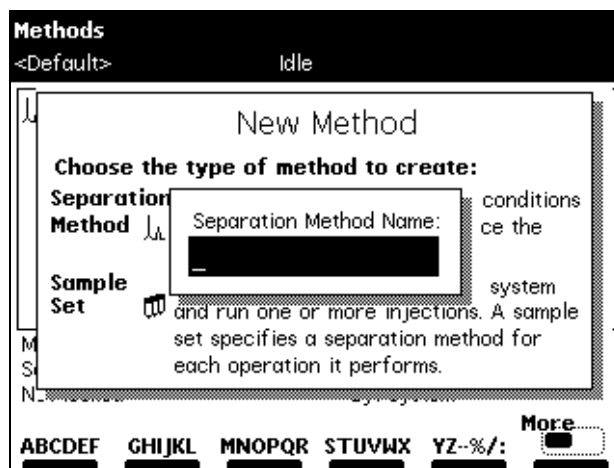

Figure 3-3 Separation Method Name Dialog Box
3. Press the chromatogram icon  (separation method) screen key. The Separation Method Name dialog box appears (Figure 3-3).